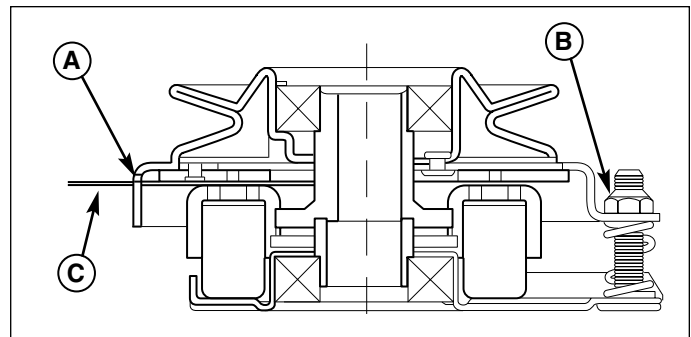

Figure 45. Adjust PTO Clutch
3. Insert a .012"-.015" (2,5-4mm) feeler gauge (C) through each window, positioning the gauge between the rotor face and the armature face as shown in Figure 45.